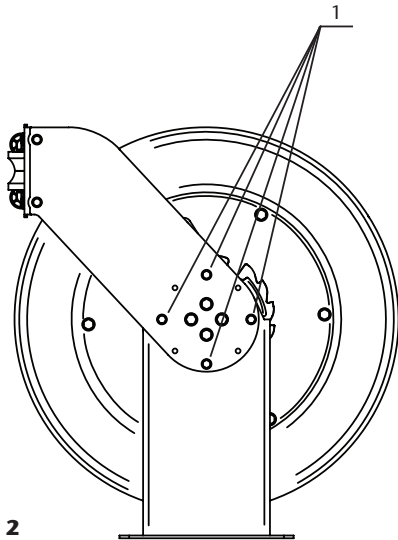

Fig. 2
To position these guide arms, loosen and remove the screws (1) (Fig. 2) in both arms. At this moment, the spool and the guide arms become loose from the reel frame. Then, just position the guide arms in the desired position and fix them with the same screws.